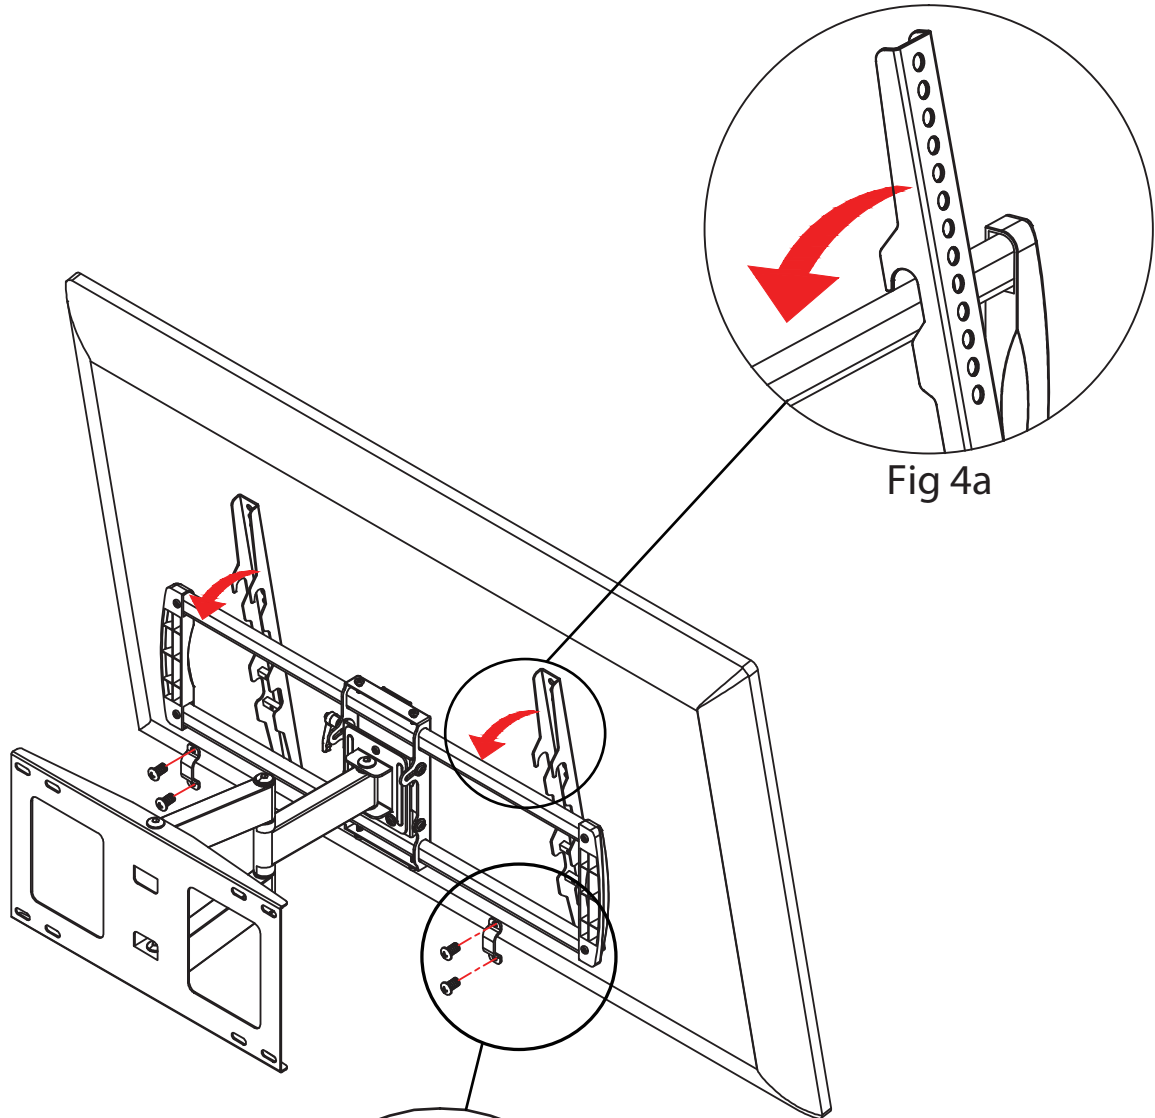

Fig 4a
1. Lift the Television display with the brackets attached and carefully hang the top hook of the **Brackets (2)** over the top bar of the **Wall Mount (1)** as shown in (Fig. 4a). Carefully swing the display down so the lower part of the **Brackets (2)** fit over the lower bar of the **Wall Mount (1)**.